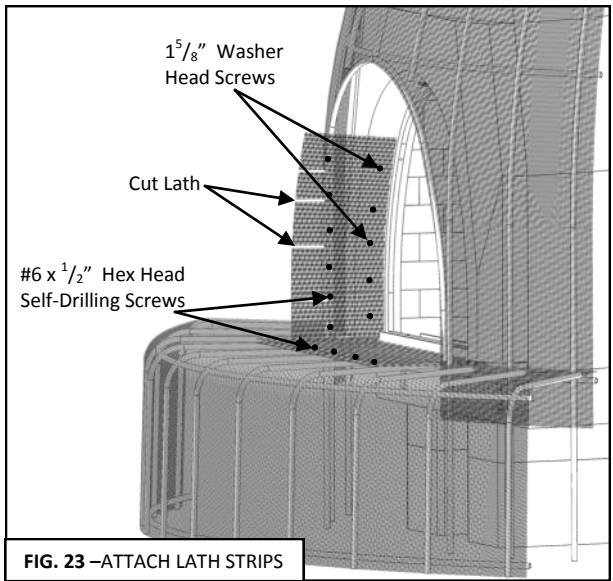

**FIG. 22 – COMBUSTION AIR TUBE LATH**
**ATTACH LATH TO COMBUSTION AIR TUBE (FIG. 22)**
Begin by placing the Kiva Frame into position in front of the Firebox. Measure from the frame to the corner or flatwall to make sure the frame equal distance on both sides. Bring the folded lath that was attached to the Combustion Air Tube (FIG. 22) through the opening in the Kiva Frame. Attach the folded section of lath to the Kiva Frame using #6 x 1/2" Hex Head Self-Drilling Screws. Any loose sections of lath can also be attached by fishing bailing wire through the pieces and tightening.